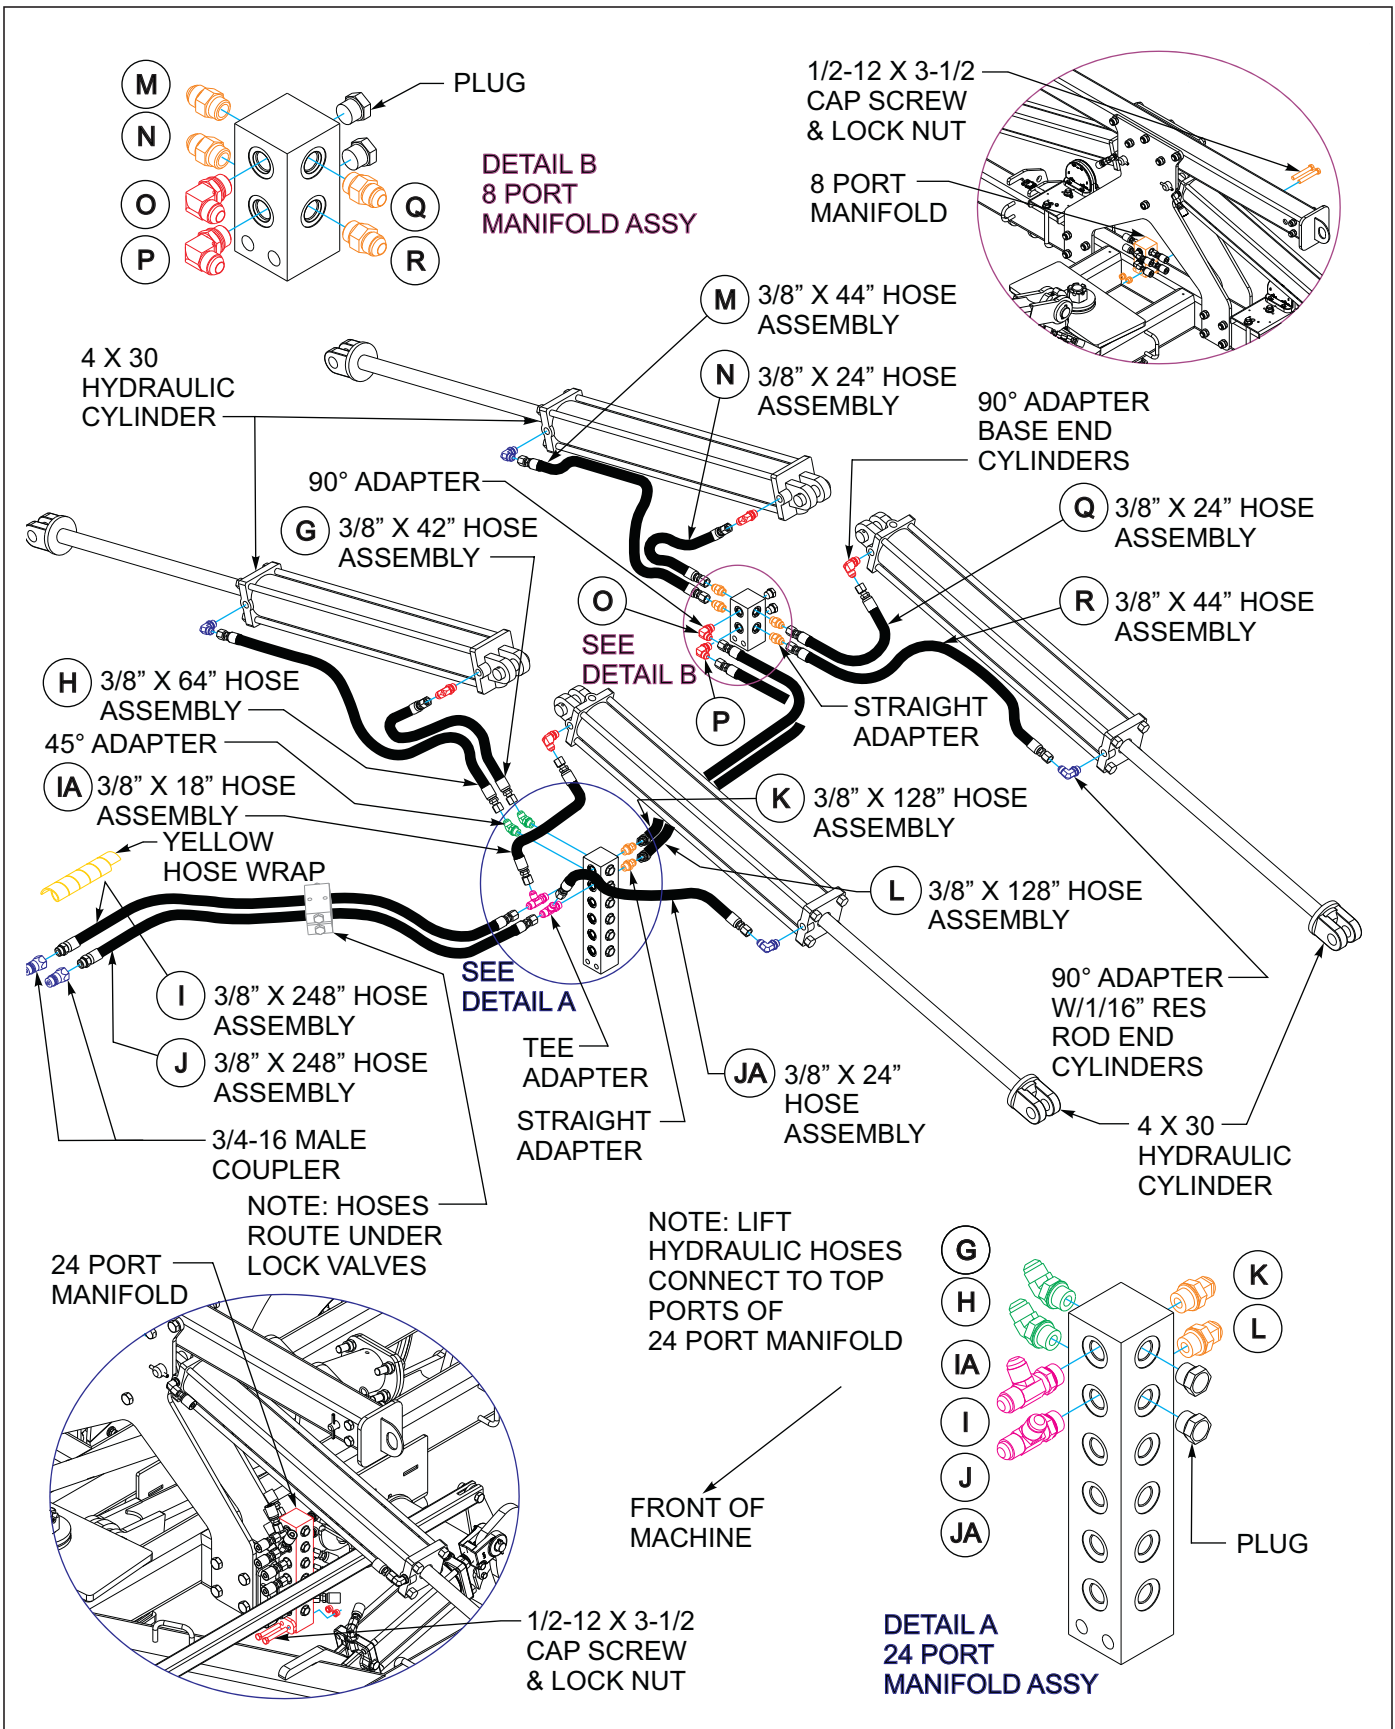
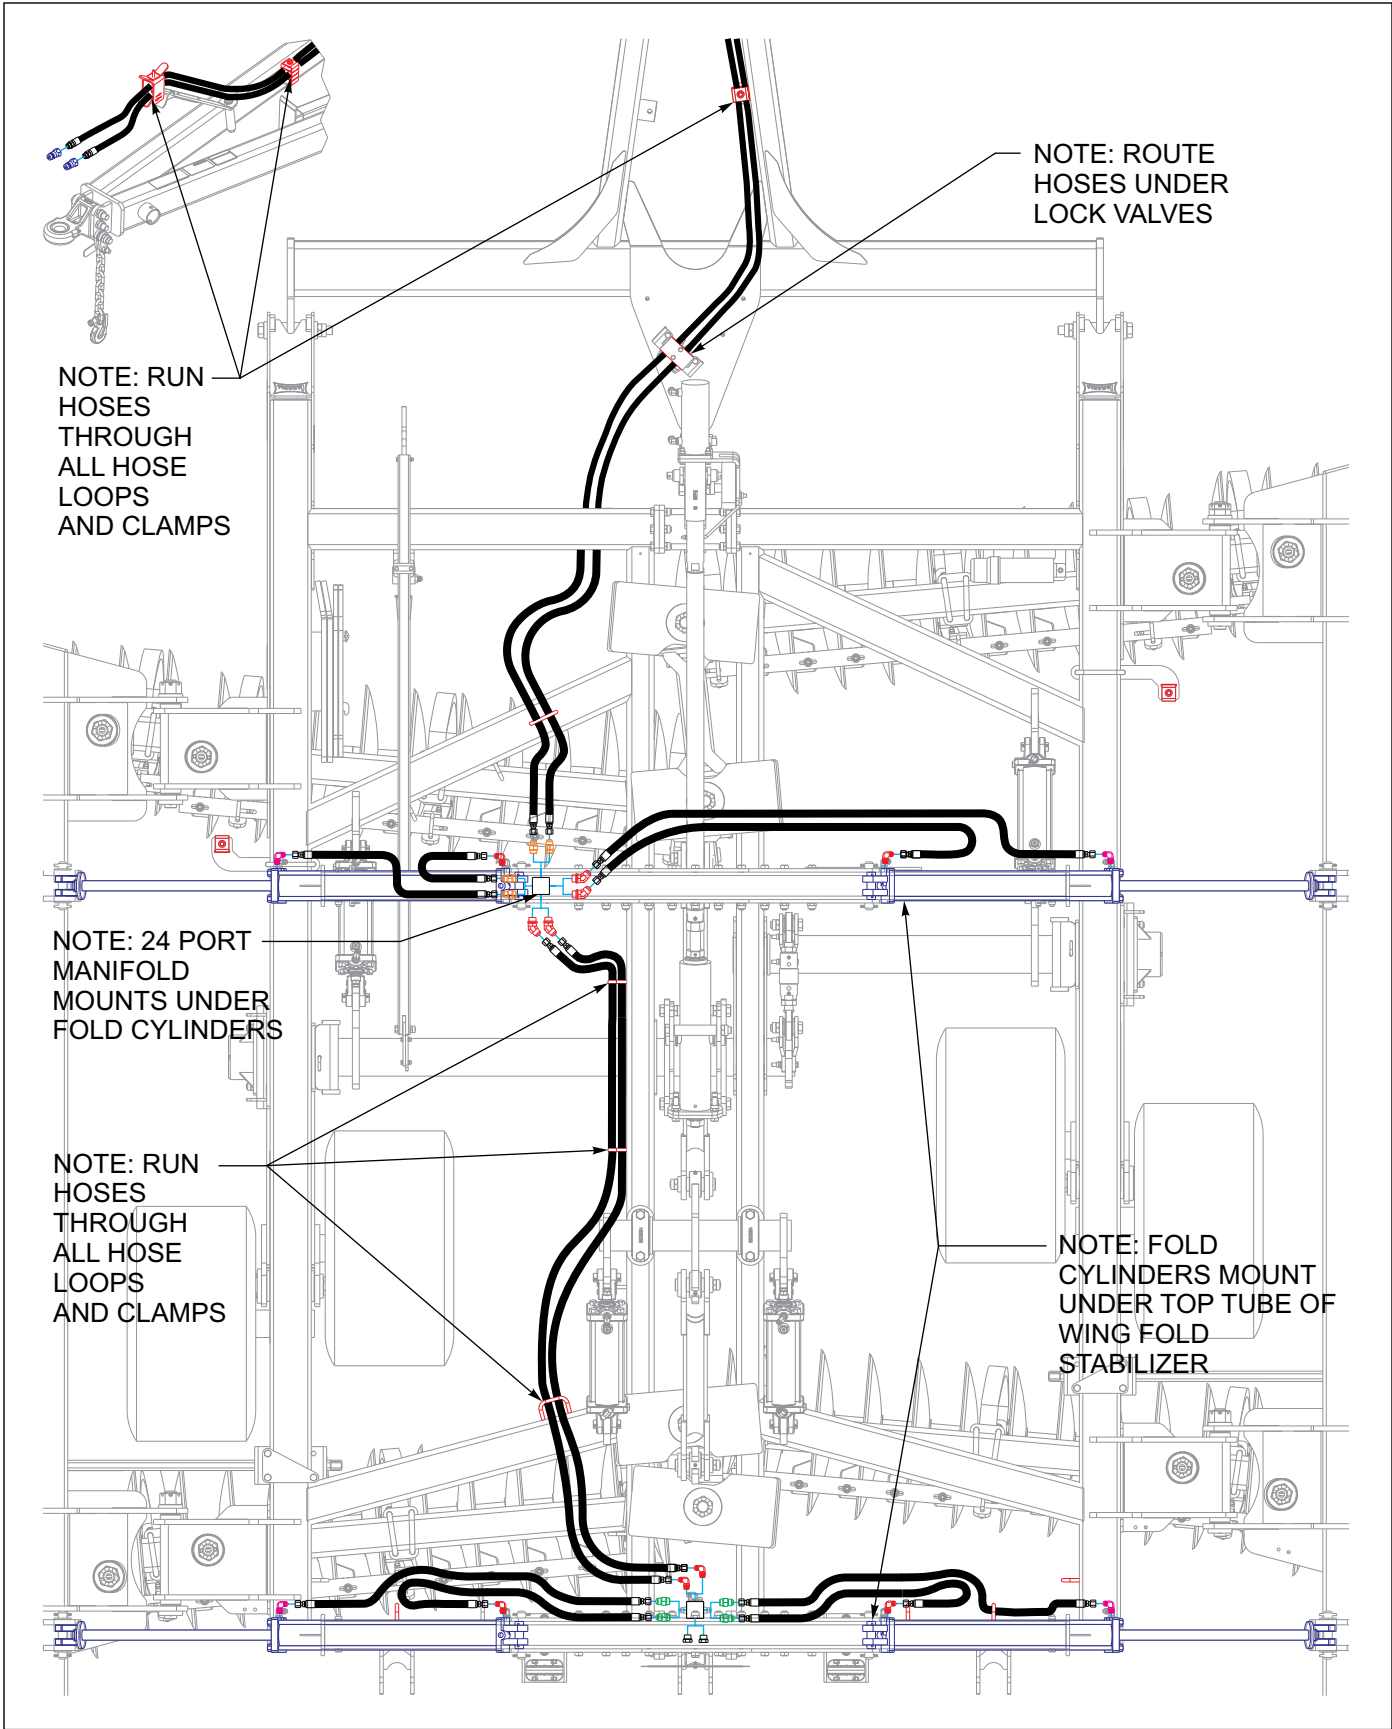

Figure 3-17: Fold Hydraulic Installation 7530-23'/26'/29'
Figure 3-20: 10Fold Hydraulic Layout 32'
Refer to Figures 3-17 - 3-20 for fold hydraulic diagrams for 7530-23'/26'/29' and 7530-32'/35' models.
1. Install the 24 and 8 port hydraulic manifolds at the center and rear of the center frame to the mounts welded to the frames (See Figure 3-17. - 3-20) using 1/2-13 x 3-1/2 hex bolts and 1/2-13 lock nuts. On the front manifold, the top two ports are for the fold system, the middle two are for the lift system, and the bottom two are for the adjustable gangs.
3. Attach the base end of the 4 x 30 fold cylinders to the fold cylinder mounts on the center frame with the pins and roll pins provided (See Figure 3-17.) There will be two plates inside of the large towers that need to be on each side of the cylinder base. All cylinders are mounted with the hydraulic ports facing the front. The fold cylinders come with the fittings supplied already installed and should have a regular 90 degree fitting on the base end and a black 90 degree restricted fitting on the rod end.
12. Install fold cylinder hoses and couplers (See Figure 3-17. through See Figure 3-20.) Wrap fold cylinder hoses with yellow hose wrap.